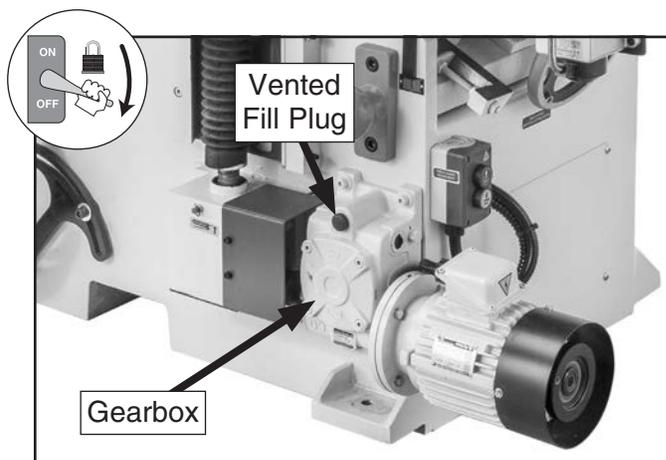

Figure 84. Location of elevation system gearbox and components.
The elevation system gearbox (see **Figure 84**) requires pumping-out and refilling yearly to prevent premature failure.
2. Remove vented fill plug (see **Figure 84**) and pump oil out of gearbox.